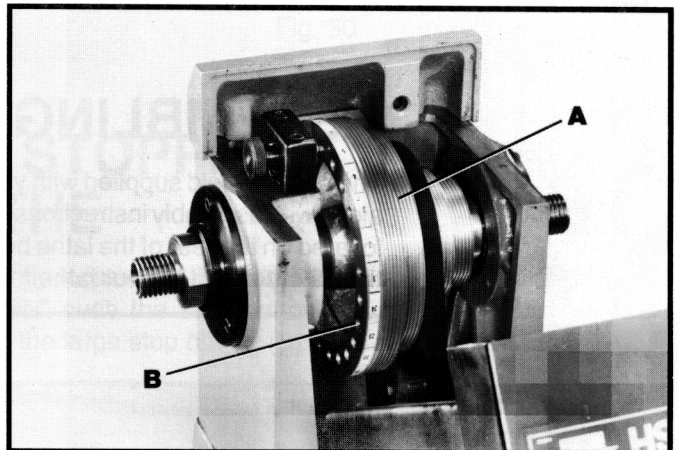
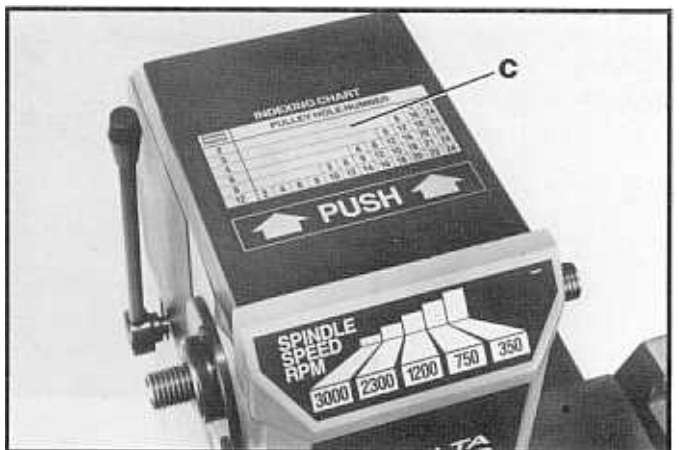

Fig. 38
Fig. 39
The spindle pulley (A) Fig. 38, has a row of 24 holes (B) accurately spaced around the rim of the pulley and are numbered 1 to 24 as shown. This feature makes it possible to make 2, 3, 4, 6, 8 or 12 evenly spaced divisions on turnings which could be fluted, grooved, or holes drilled at these points. For example, if you wanted the turning to be divided into three equal divisions you would index at holes 8, 16 and 24; if you wanted the turning divided into six equal divisions you would index at holes 4, 8, 12, 16, 20 and 24; and if you wanted eight equal divisions, index at holes 3, 6, 9, 12, 15, 18, 21 and 24. Follow the same procedure for dividing the turning into two, four or twelve equal divisions. An indexing chart (C) Fig. 39, is provided on the top cover of the headstock for your convenience.